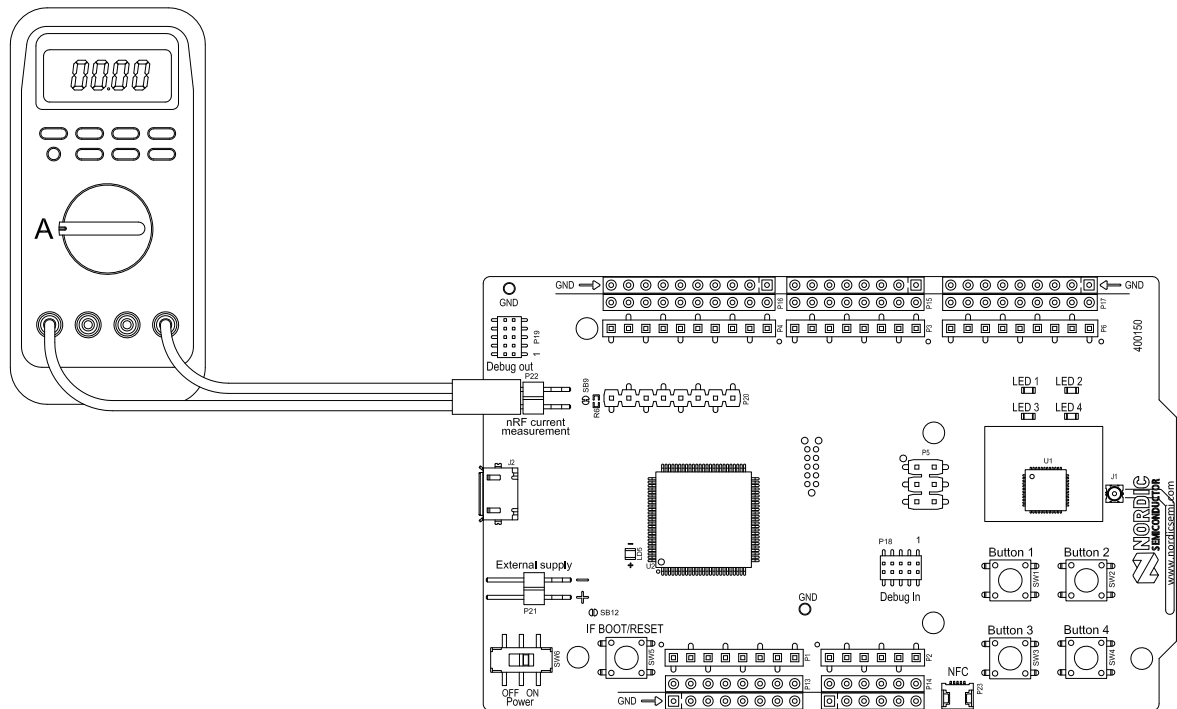

Figure 20: Current measurement with an ampere-meter
2. Connect an ampere-meter between the pins of connector **P22** as shown in Figure 20: Current measurement with an ampere-meter on page 24.